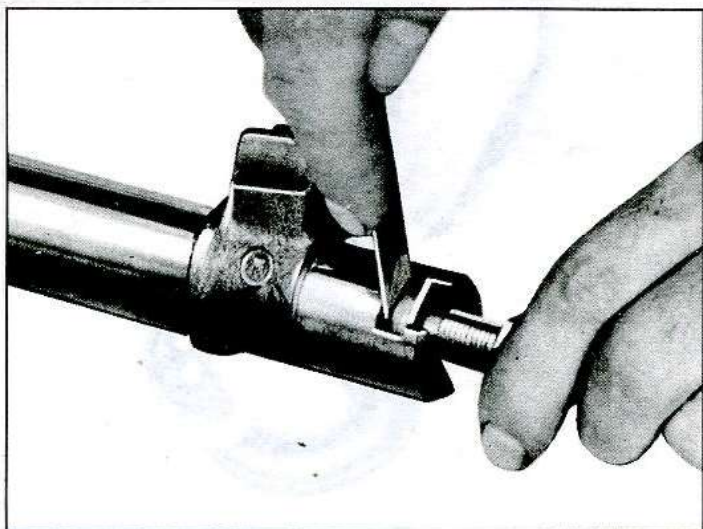

Fig. 16—Checking Lash Adjuster End Clearance
3. Assemble the lash adjuster with shim in the slot in the end of sector shaft. Check the end clearance which should not be greater than .002" (fig. 16). For the purpose of adjusting this end clearance, a steering gear lash adjuster shim unit is available. It contains four shims—.063", .065", .067" and .069" thick.